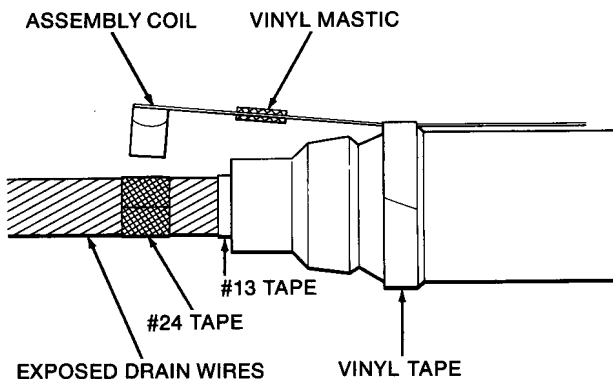

Figure 7
1. Position shield continuity assembly over splice and hold it in place with a wrap or two of vinyl tape at ends of splice body (Figure 7).
2. Note position of coil at cable and wrap #24 Metallic Shielding Tape (one complete length as supplied) around shield wires at this point (Figure 7). Install assembly coil over the #24 Tape (see "Coil Application" procedure). Do this for both ends.
- b. After removing liner, place one vinyl mastic pad **under** strap, mastic side toward strap, and centered over splice body end cap (Figure 7). Place a second pad over the strap and the first pad and press together, mastic to mastic forming a sandwich. (This will be overwrapped with #13 Tape.)